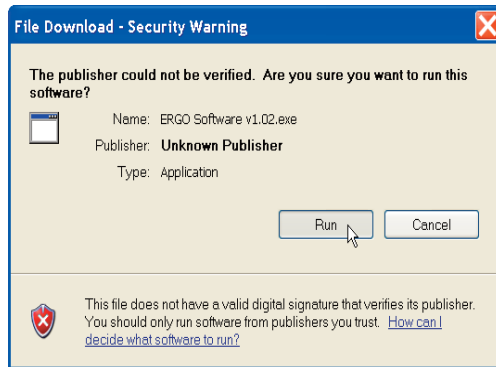

Figure 3.9
3. The following *Security Warning* will appear. Click **Run**. (Figure 3.9)